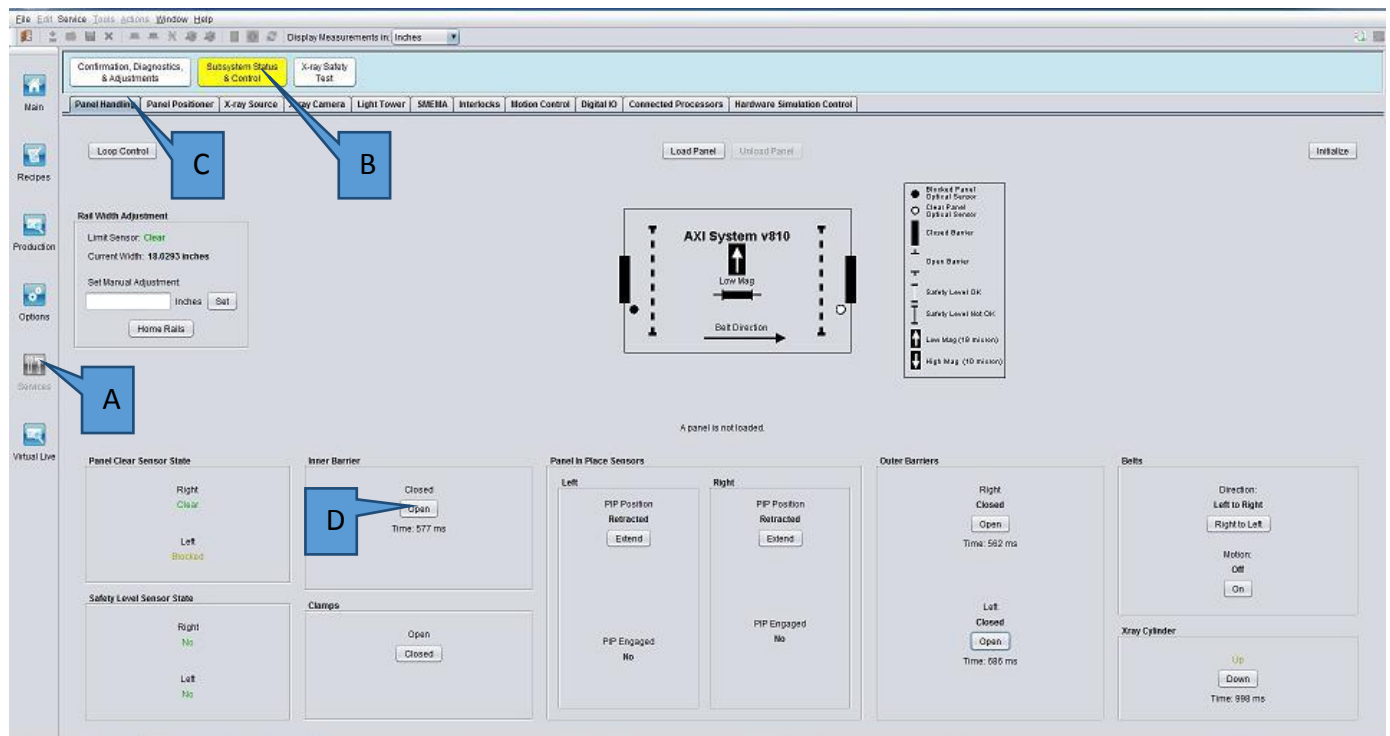

Figure 4 Panel Handling
4. Go to Panel Handling tab and initialize as show in Figure 4. Inner Barrier in Open position,